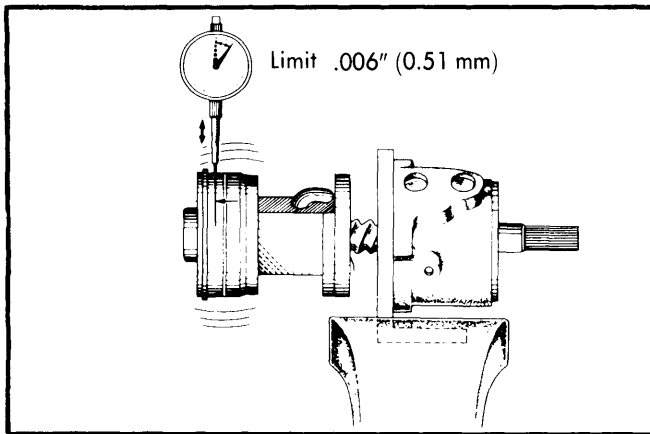

Fig. 6 Using Gauge to Check Ball Clearance
4) Install valve assembly in vise. Using a dial indicator measure ball clearance. If clearance exceeds .006" (0.51 mm) replace valve assembly (See Fig. 6).